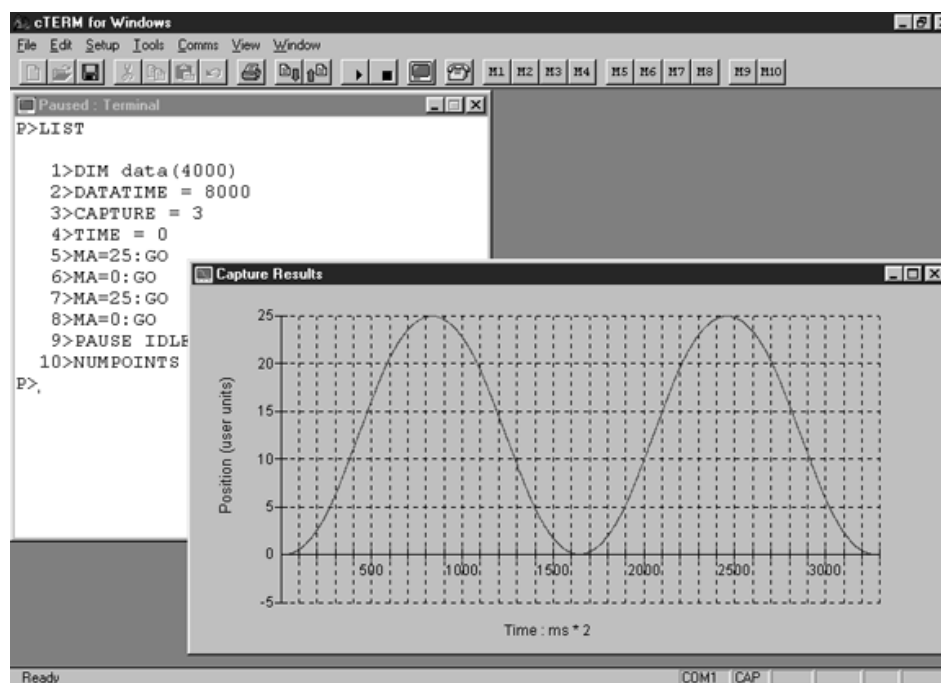

Figure 6: cTERM for Windows
- Data capture. Using the data capture routines of SmartMove, velocity or following error profiles can be captured on the controller and viewed by cTERM. Refer to Figure 6.